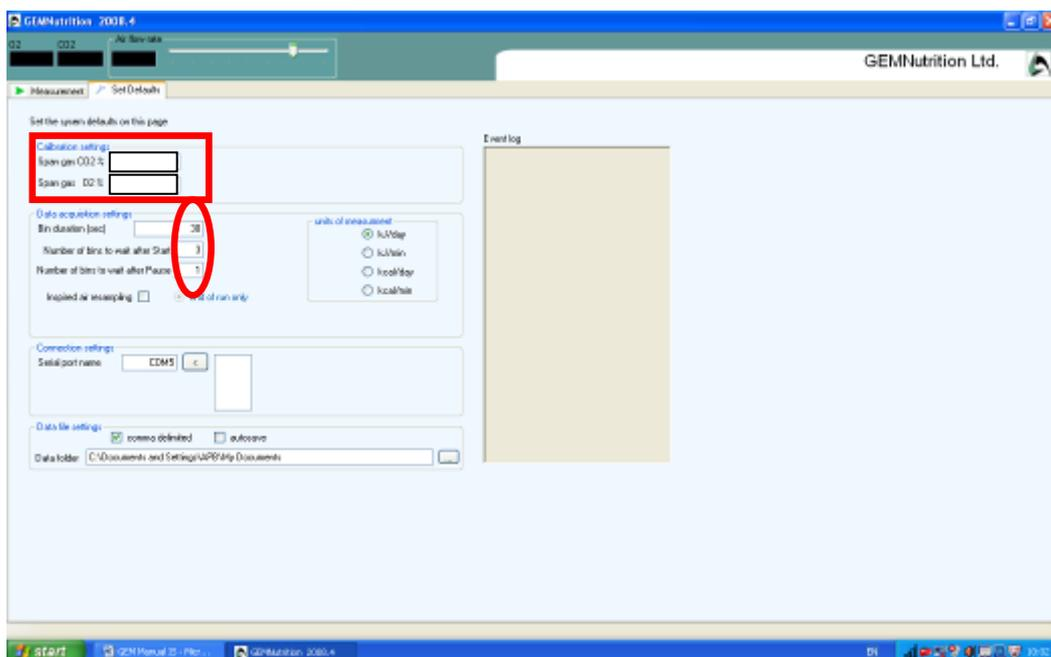

Figure 5. Set defaults tab
- When 3 calibrations have been performed, select the “defaults” tab and check that the program is set to discard the first three measurements and that the bin size is 60 seconds, unless otherwise required by the study protocol. Make any appropriate changes but do not alter the values in the calibration settings (the values in these boxes are set according to the percentages of O2 and CO2 in the gas cylinders). All outlined in red in figure 5.